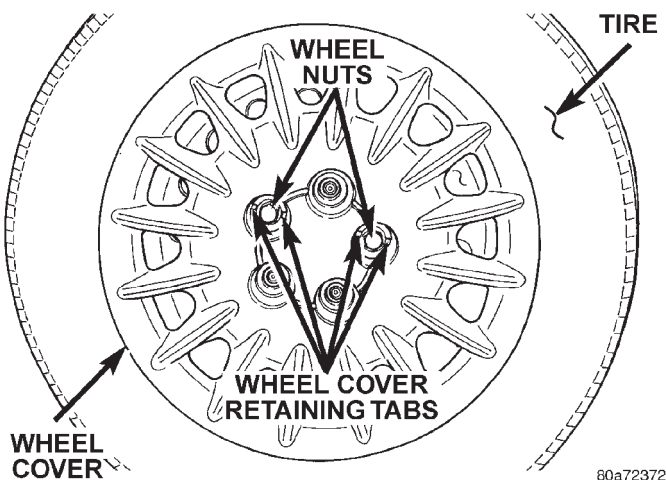

Fig. 16 Wheel Cover Retaining Tabs
(2) Grasp the center of the wheel cover and pull straight outward from the wheel. This will pop the wheel cover retaining tabs (Fig. 16) over the two remaining wheel nuts, removing the wheel cover from the wheel.